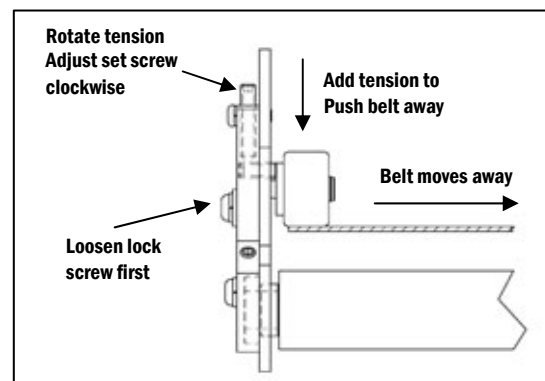
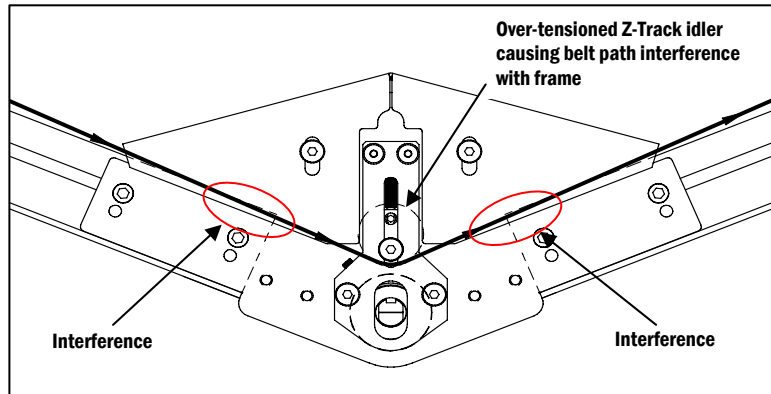

Figure 3
Figure 4
c. Loosen tension lock screw to enable Z-Track idler tension adjustment. Turn the tension adjust set screw clockwise (threading in). Increasing the Z-Track idler tension adjustment on that side will push the belt away from the idler (Figure 3). Tighten tension lock screw and wait for two complete belt revolutions to see if adjustment corrects the issue. Do not over-adjust tension to the point that the belt path interferes with the tops of the conveyor frames. (Figure 4, next page). If this step does not correct the issue, move to the next step.